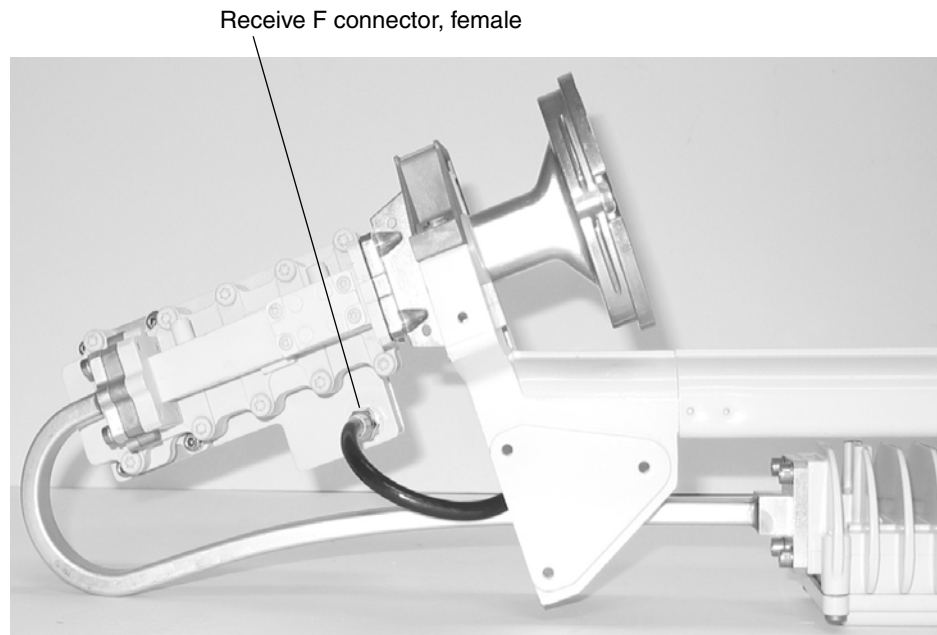

Figure 32: Connecting the receive cable to the LNB
1. Connect the receive cable (marked with red tape) to the LNB connector as illustrated in Figure 32.